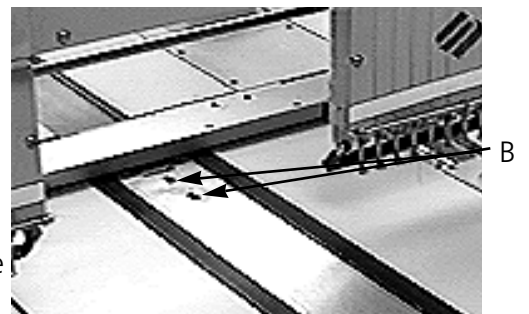

Figure 3-4
4. Referring to Figure 3-4, remove the two socket head cap screws labeled "B" from the Y-axis bearing supports. Do not loosen or remove any other screws in this area. Repeat this step at all four Y-axis bearing support locations.